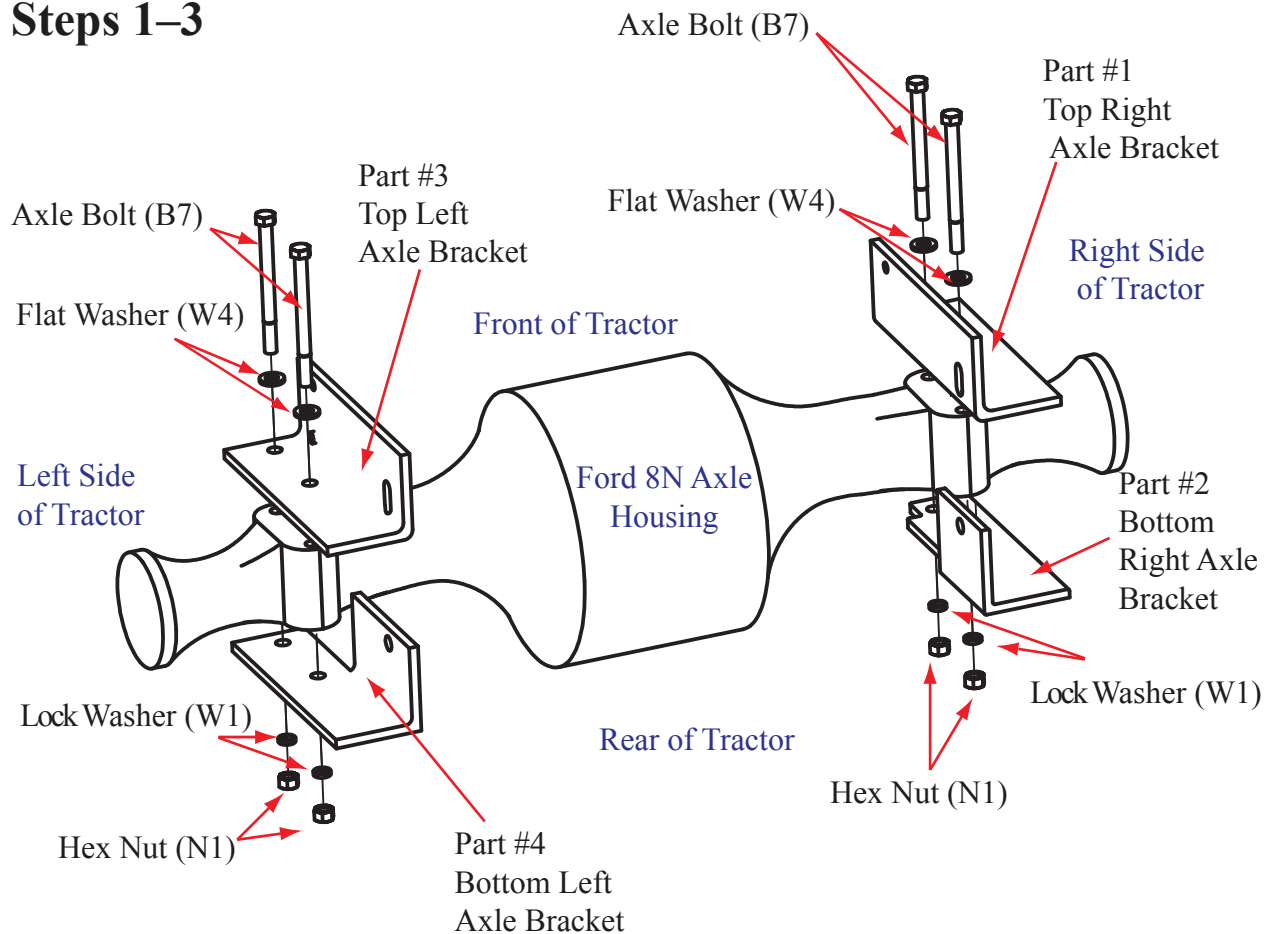

Figure 1
Step 1. Read the “special notes” section on page 5. Place the top right axle bracket (#1) on top of the right axle. Place the fender (not shown) on top of the axle bracket (#1). Align the holes in the fender base and axle bracket with the two holes of the tractor axle. Slide a flat washer (W4) onto two bolts (B7). Insert axle bolts (B7) down through the fender base and axle bracket holes and then through the holes of the tractor axle. (Figure 1)
Step 2. Align and install the bottom right axle bracket (#2) to the bottom of the tractor axle using the two-hole bolt pattern of the axle bracket and the two bolts inserted in step 1. If needed for a draw bar link, install a bottom right lower link support bracket to axle bolts (B7) and the bottom surface of axle bracket (#2) (not shown). Install lock washers (W1) and nuts (N1) to axle bolts (B7). Tighten bolts and nuts until axle brackets are “snug tight” to axle. (Figure1)